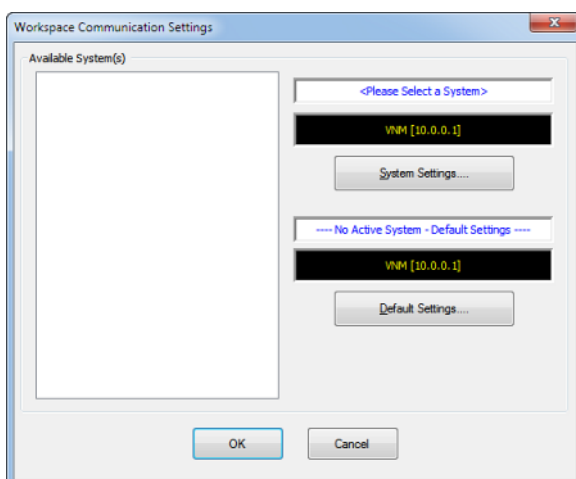

FIG. 4 Workspace Communication Settings dialog
2. This opens the *Workspace Communication Settings* dialog (FIG. 4).